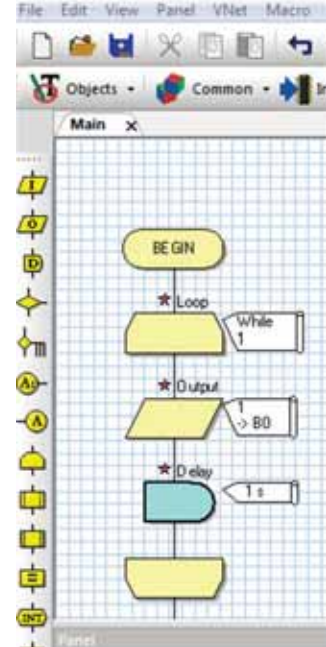

Figure 4: Insert one-second delay after turning the port pin ON
As an example consider the 'Motormind' PC software illustrated in Figure 4. Working in conjunction with a suitable evaluation board, Motormind allows engineers to transfer key parameters to a target microcontroller (e.g. pole pairs, current settings, rotational information, acceleration and encoder details) and modify system settings including PI control, deadtime, PWM frequency and shutdown/start-up behaviour. Because the motor can run immediately with the new settings without software recompilation custom motor set-up is possible within an hour and values can be changed in real time as required. The software provides various views - including a speed and torque display, a 'statistics view' and a CPU load monitor - that allow designers to observe in real time how modifying various motor control parameters effects motor behaviour, MCU performance and efficiency during acceleration, operation at target speed, and deceleration. In addition an integrated μDSO capability allows designers to quickly identify and resolve bugs and problems during prototyping and testing.
3. Insert a Delay block after turning the port pin ON as shown in Figure 4. Set the delay property to 1 second.